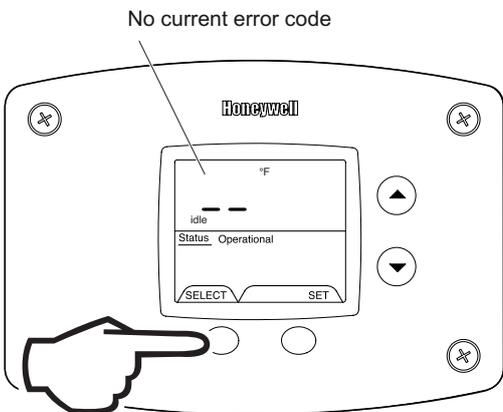

Fig. 75
1. In 'Service Mode' press the 'Select' button until the next display after the 'Software Version'. If there are no current error codes, the display will show -- (Fig. 75).